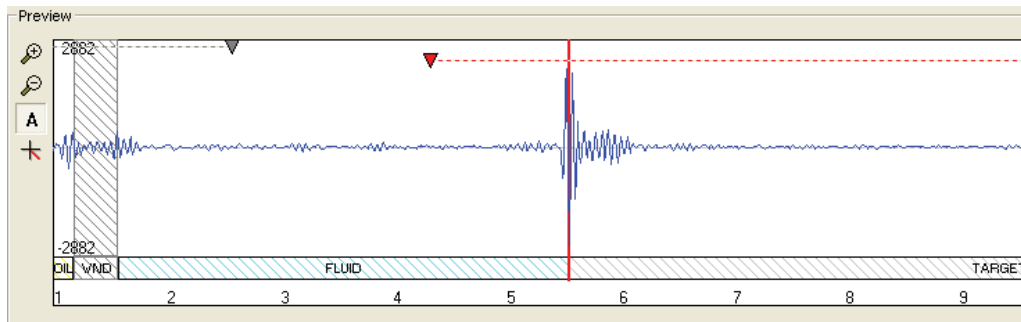

Figure 4-13 Start gate set in manual mode
- **Manual:** Manual adjustment of the Echo Gate start time is useful to exclude noise with amplitudes higher than the formation signal (e.g. exclude the reflection from the inside of a PVC casing) – (Figure 4-13).